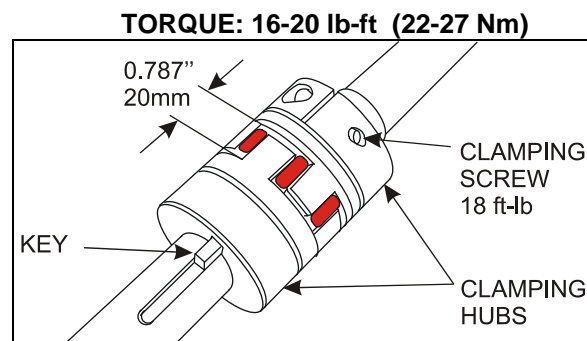

FIGURE 22: JAW COUPLING
8. Reconnect the clamping hubs with the spider. Leave a gap of 20mm (0.787inch) between each clamping hubs as shown in Figure 22. Use the motor hexagonal output shaft to align the keyways.